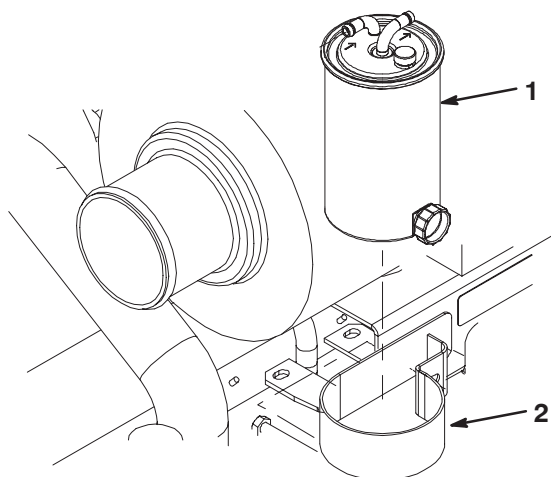

Figure 4
6. Insert the new fuel filter into the mounting band (Fig. 4). Make sure the filter is all the way down into the band and tighten the capscrews and nuts. Position the filter in the mounting band as shown in figure 4.